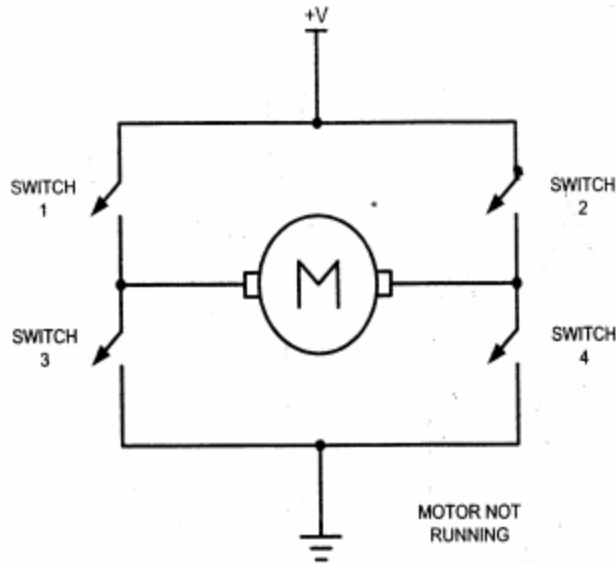

Figure 5.14 H-Bridge Motor Configuration
- Figure 5.14 through 5.17 shows the basic concepts of H-Bridge control of DC motors.